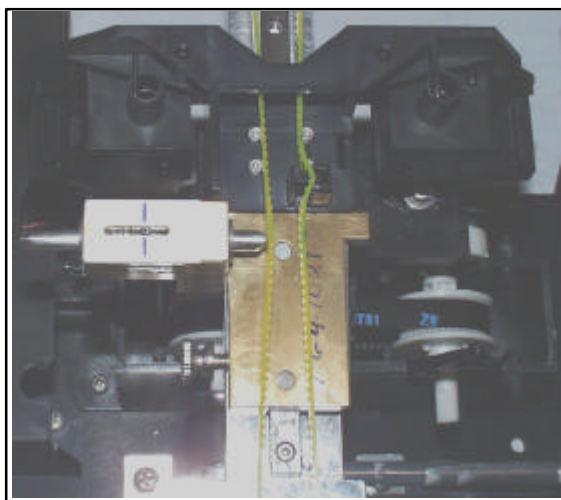

Figure 8-3
4. Install the Readhead fixture as shown in Figure 8-3.